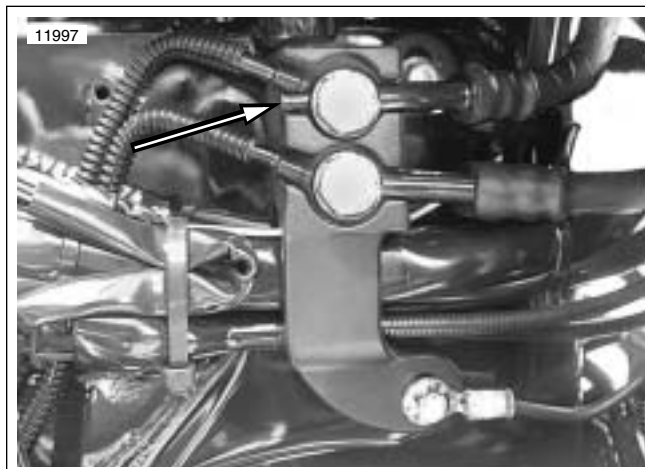

Figure 1. Correct Routing For Forward Brake Lines
1. See Figure 1. Routing is correct when both brake lines extending forward from the brake manifold are installed outboard of the rear facing lines and the front calipers brake line, with nipple, is installed in the upper manifold port.